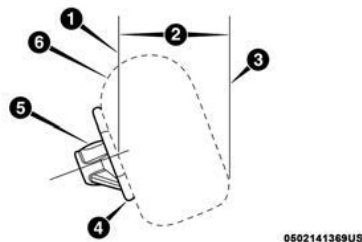
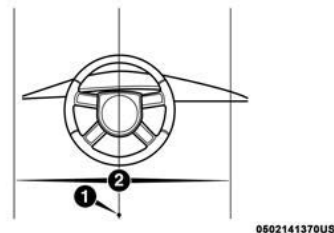

Figure 1 - Driver Air Bag Deployment Zone, depicts the following:
Figure 2 - Driver Air Bag Lateral Deployment Zone, depicts the following:
1. Driver Air Bag Deployment Zone (Figure 1), and Driver Air Bag/Steering Column Specifications (Figure 2)